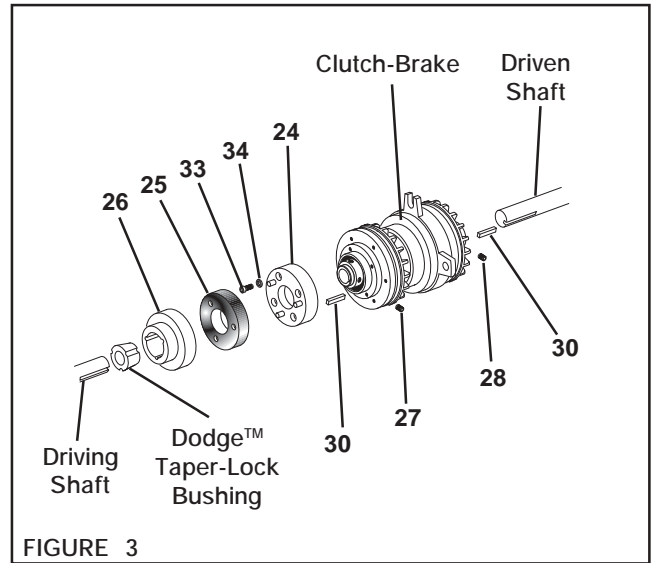

FIGURE 3
- Determine the parallel misalignment of shafts to be coupled by placing a straight edge across the shafts and measuring the maximum offset at various points around the periphery of the shafts. Make the necessary corrections to keep the shafts within parallel misalignment limits of the clutch coupling (See Figure 3 and Table 2).
Before installation, the driving shaft can be fixed but the driven shaft must be allowed to "float" (See Figure 3).
- Insert the first Key (Item 30) into driven shaft (See Figure 3).
- Slide Clutch-Brake Assembly onto the driven shaft (See Figure 3).
- Insert second Key (Item 30) (See Figure 3).
- Install and tighten Set Screws (Items 27 and 28) to the recommended torque (See Figure 3 and Table 3).
- Attach the Coupling Adapter Plate (Item 24) to the Clutch-Brake pilot using Cap Screws (Item 33) and Lock Washers (Item 34); then, tighten the Cap Screws to the recommended torque (See Figure 3 and Table 3).
- Place the Coupling's Flexible Disc (Item 25) over the pins in the Coupling Adapter Plate (Item 24) (See Figure 3).
- Insert the customer supplied Dodge™ Taper-Lock Bushing into the Coupling Hub (Item 26) (See Figure 3).
- Align the holes (not the threads) and slide the Dodge™ Taper-Lock Bushing Assembly onto the driving shaft until it is flush with the shaft (See Figure 3).
- Align the pins in the Coupling Hub (Item 26) with the holes in the Flexible Disc (Item 25) (See Figure 3).